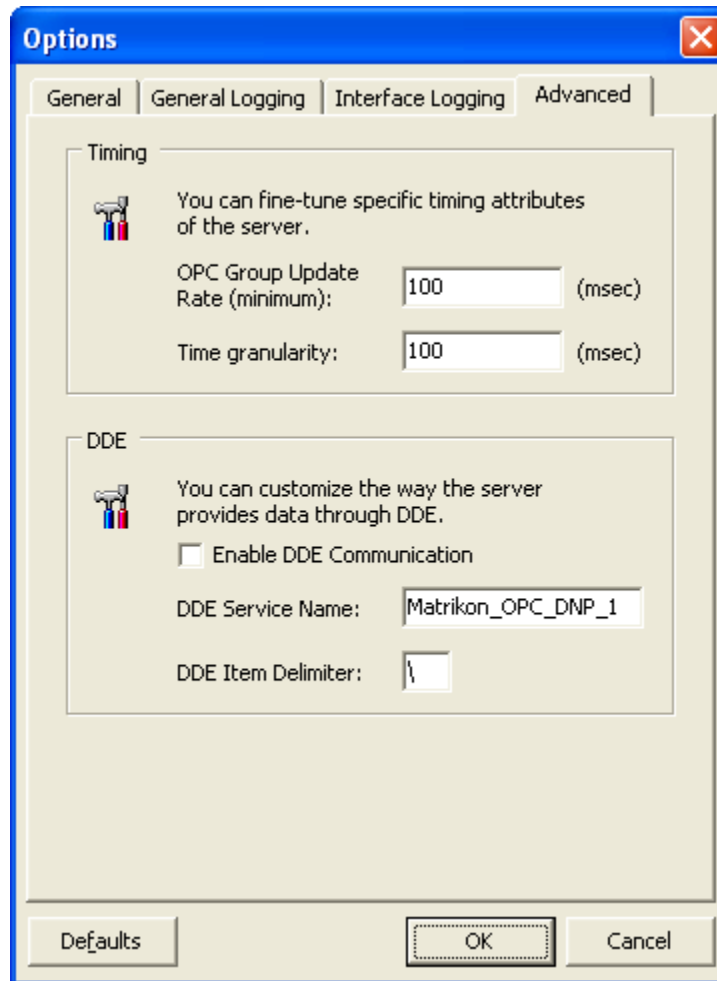

Figure 18 - Advanced Options Tab
3. From the **Options** window, select the **Advanced** tab (Figure 18).